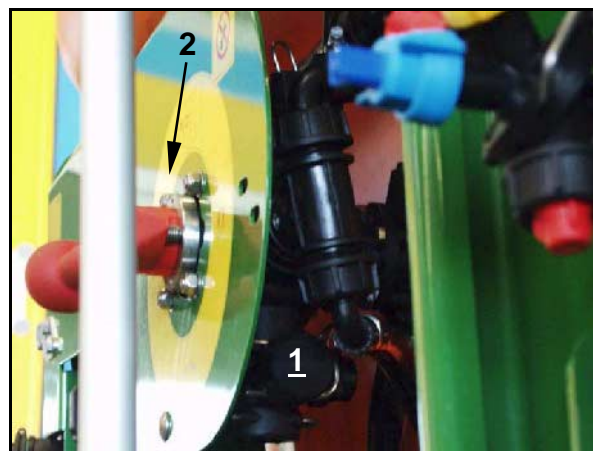

Fig. 215
8. Remove the cap (Fig. 215/1) from the check port of the VARIO-control-pressure side (Fig. 213/6) or (Fig. 215/2).